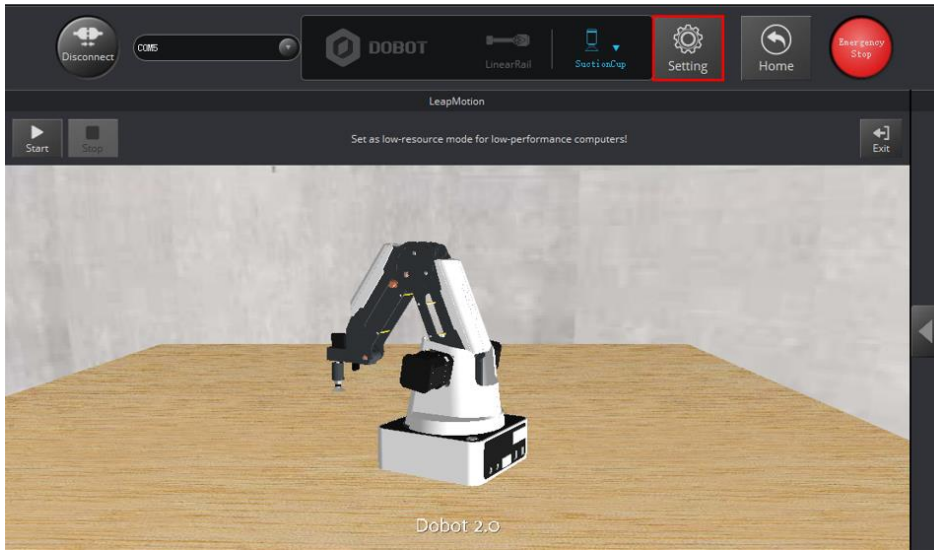

Figure 5.97 Click Setting
Step 3 Click **Setting** on the **DobotStudio** page, as shown in Figure 5.97.